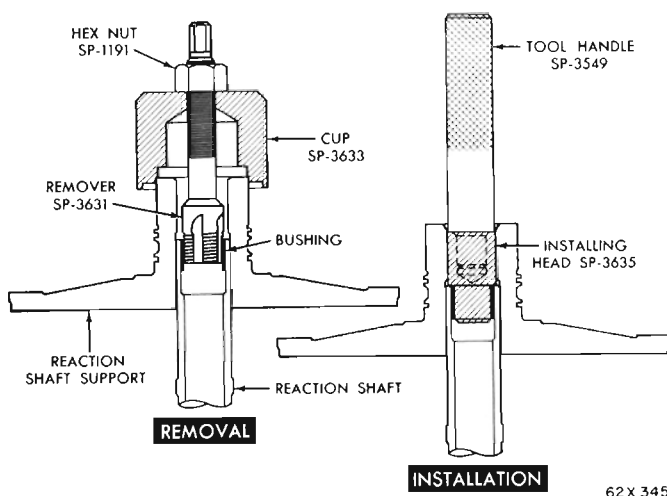

Fig. 82—Replacing Reaction Shaft Bushing
(1) Assemble the remover Tool SP-3631, the cup Tool SP-3633, and the hex nut Tool SP-1191 (Fig. 82).
(6) Slide a new bushing on the installing head Tool SP-3635, and start them in the bore of the reaction shaft (Fig. 82).
(7) Support the reaction shaft upright on a clean smooth surface and install the handle Tool SP-3549 in the installing head. Drive the bushing into the shaft until the tool bottoms.
(8) Thoroughly clean the reaction shaft support assembly before installation.